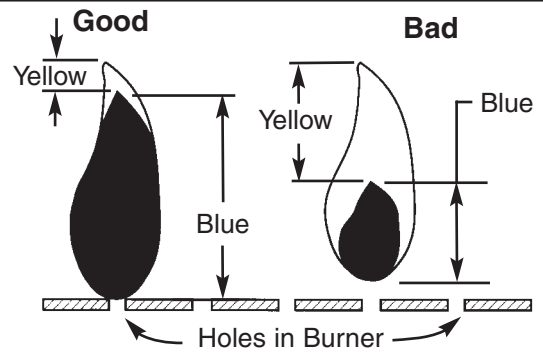

Fig. 58
- Flames should appear similar to the good flame shown in Fig. 58 and as follows: